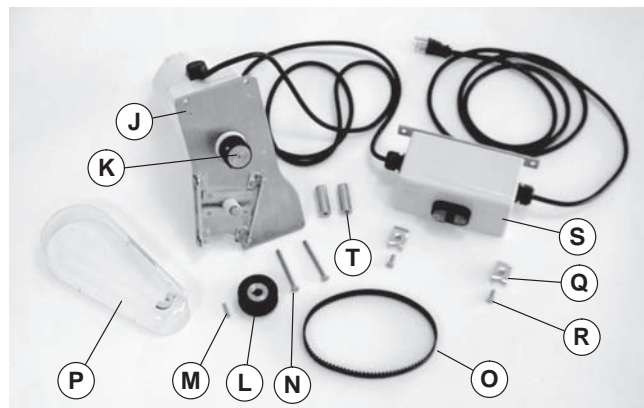
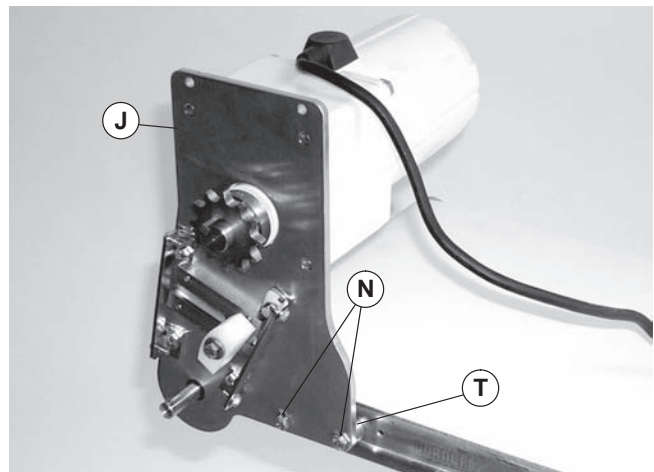

Figure 2
Figure 10
1. Typical components (Figure 2)
For a 7300 Series mounting package, install two spacers (Figure 2, item T) (shipped loose) between mounting plate/gearmotor assembly (J) and conveyor. On a 7200 Series (shown), the two spacers (Figure 10, item T) are attached to the mounting plate/gearmotor assembly.
3. Attach mounting plate/gearmotor assembly (Figure 10, item J) and two spacers (see Note) with screws (N). Tighten screws to 92 in-lb (10.4 Nm).